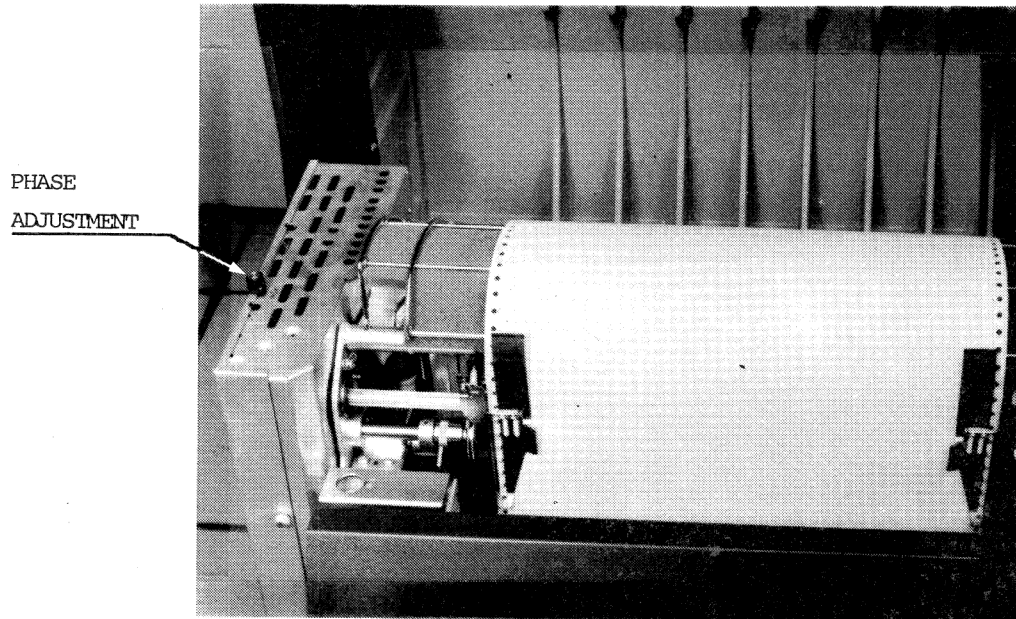

Figure 5: Phase adjustment.
- located above the logic enclosure (see fig. 5). Allows the operator to adjust the hammer firing to maintain equal print density at the top and bottom of the character.